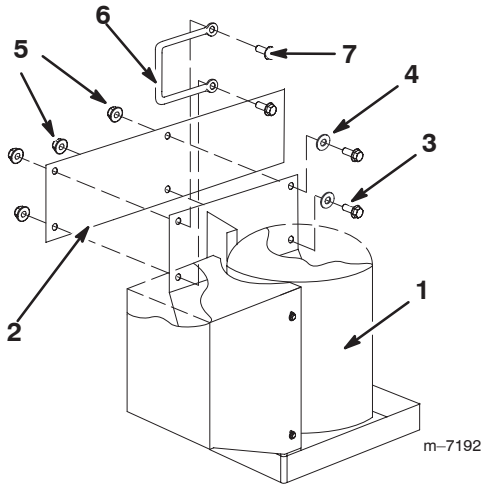

Figure 4
11. Mount the foam marker assembly to the frame using two bolts (3/8 x 1 inch), two washers (3/8 inch), two flange nuts (3/8 inch) included in loose parts; and the left handle and fasteners removed previously (Fig. 4).